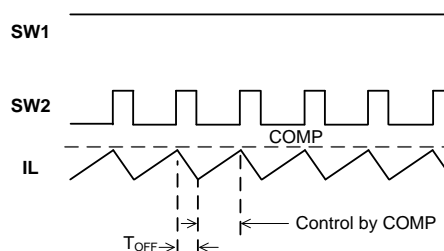

**Figure 5: Buck Waveform**
COMP voltage ( $V_{COMP}$ ), SWB turns off, and SWA turns on. SWA turns on for a fixed on-time period before turning off. Then SWB turns on again, and the operation repeats. The COMP signal is the error amplifier (EA) output from the  $V_{OUT}$  feedback and internal FB reference voltage (see Figure 5).